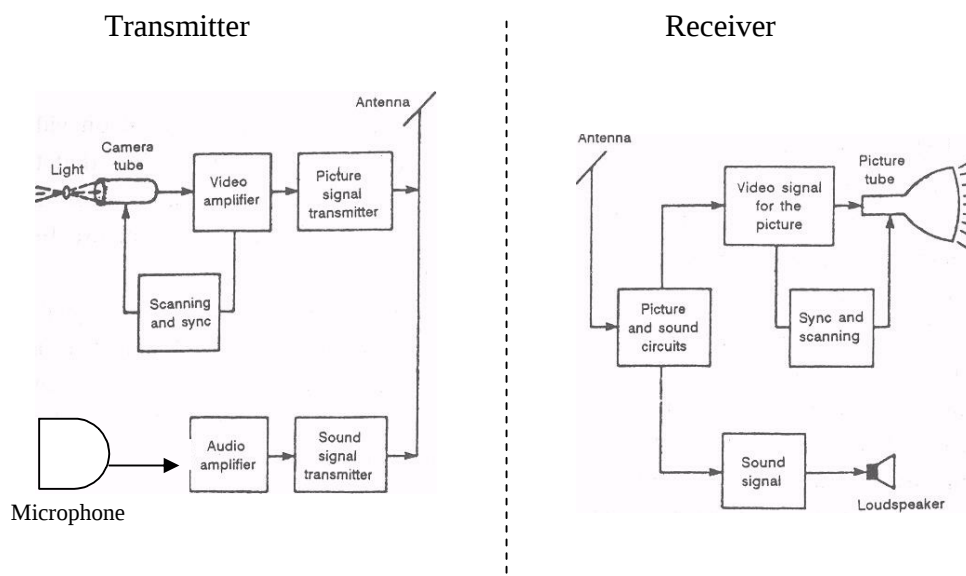

Figure 16-1. Block Diagram of the Television Broadcasting System.
The term 'broadcasting' means to send out in all directions. As illustrated in Figure 16-1, the transmitting antenna radiates electromagnetic radio waves that can be picked up by the receiving antenna. For commercial television broadcast stations, the service area is about 25 to 75 mi in all directions from the transmitter. The radiation is in the form of two rf carrier waves, modulated by the desired information. Amplitude modulation(AM) is used for the picture signal. However, frequency modulation (FM) is used for the sound signal.
Referring to Figure 16-1, we see that the desired sound for the televised program is converted by the microphone to an audio signal, which is amplified for the sound-signal transmitter. For transmission of the picture, the camera tube converts the visual information into electrical signal variations. A camera tube is a cathode-ray tube with a photoelectric image plate.
is necessary to reassemble the picture information on the correct lines. These functions are provided by the block of scanning and synchronizing circuits shown in Figure 16-1 for the transmitter and receiver. The term 'synchronizing' is usually abbreviated *sync*.